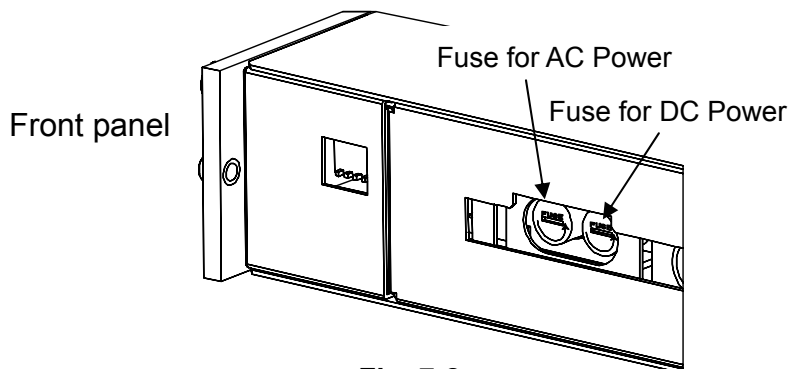
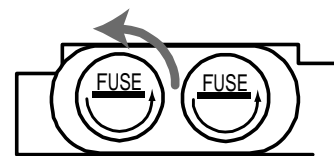

Fig. 7-2
Fig. 7-3
2. As shown in Fig.7-2, place the amplifier unit so that the front of the unit to be left side, bottom of the unit to be in the front, and the rear of the unit to be right side.
3. Use a flat-blade screw driver and turn the fuses to the arrow directions mentioned on the fuse holders. (See Fig. 7-3, counter-clockwise)
6. When installing fuse holder, use a flat-blade screw driver. When pushing the fuse, keep the fuse holder slit to be vertical to the amplifier unit (Fig. 7-2, dotted line), and then press deeply and turn clockwise by 90 degree.
7. Confirm that the fuse holder is fully installed in the amplifier unit as Fig. 7-2. Also, confirm that the fuse holder slit (flat-blade screw driver contact portion) is parallel to the amplifier unit as Fig. 7-3.